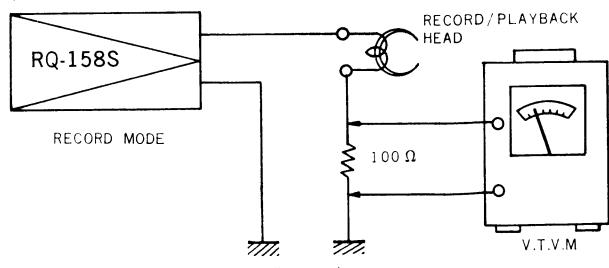

Fig. 4
Measuring Circuit: Refer to Fig. 4.
1. As shown in Fig. 4, insert 100 Ω resistor to ground lead wire of Record Head and connect VTVM across resistor.